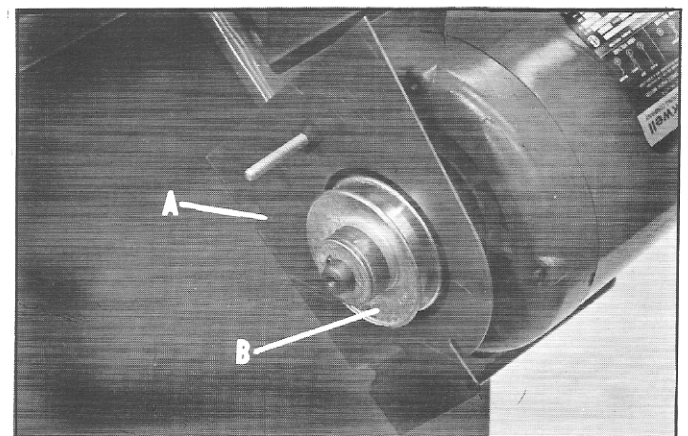

Fig. 10
6. Position the belt and pulley guard bracket (A) so that the motor pulley (B) is centered and through the hole in the belt and pulley guard bracket, as shown in Fig. 10. Tighten motor mounting screws, washers, lockwashers and nuts.
7. Using a straight edge, align the motor pulley to the arbor pulley. If necessary move motor pulley in or out on motor shaft. NOTE: Be sure guard bracket is still centered and aligned with pulley as shown in Fig. 10.